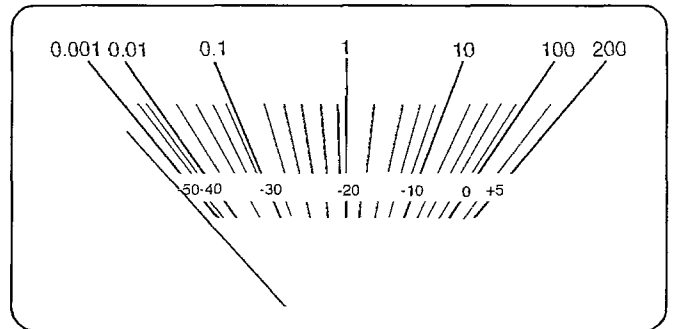

Fig. 3
3. Turn the power ON, make sure that the power meter is mechanically adjusted to 0 point (shown in Fig. 3).